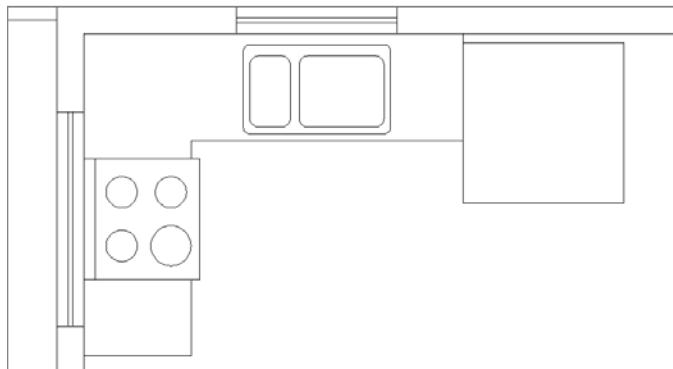

FIGURE 7.47 Zooming into see the revised window blocks with double glazing
7. Zoom into a closer look at the kitchen in order to view some of the modified window block references (see Figure 7.47).